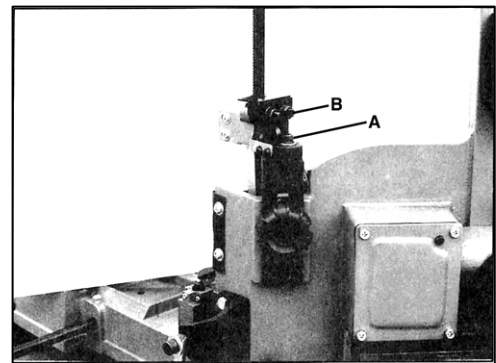

Fig. 15
3. Loosen hex cap screw (A, Fig. 15) and adjust assembly so that back roller bearing is approximately 0.08mm-0.12mm from the back of the blade.